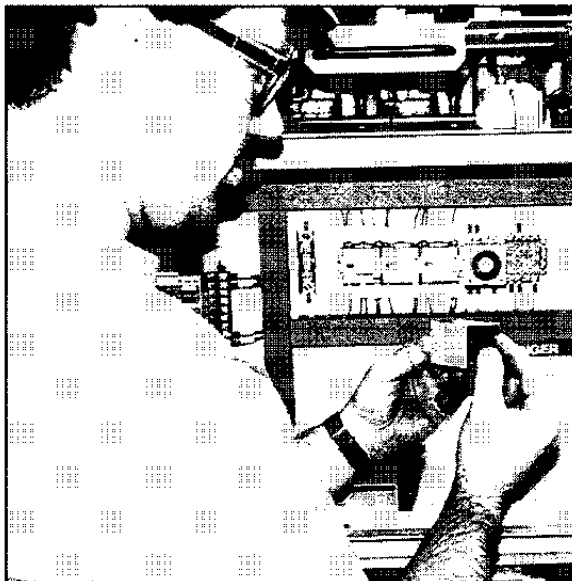

Fig. 43 Device/Mechanism Check
- All devices should be checked for damage (Fig. 43). All necessary repairs or replacements should be made.